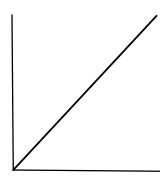
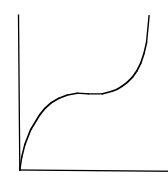

Fig. 3
Fig. 4
3. When V2 is tuned to 0 position, the curve is linear (Fig.3) ; When V2 is tuned to the "+" end, the servo curve will be changed in the form of exponential (Fig.4); When V2 is tuned to the "-" end, the servo curve will be changed in the form of negative exponential (Fig.5). The regular set is 0%.